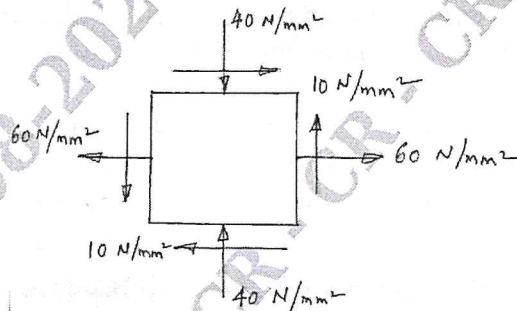

Fig. Q4 (b)
- b. A plane element is subjected to stresses as shown in Fig. Q4 (b). Draw the Mohr's circle and determine principal stresses, maximum shear stress and their planes. (10 Marks)